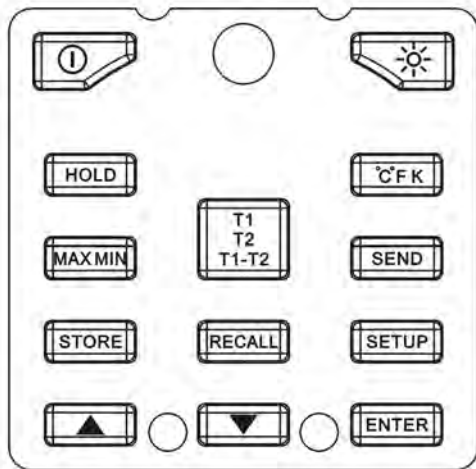

Figure 3 72-7712 and 72-7715 button set
- Figure 3-a and 3-b and Table 5 describes the functions of the buttons.